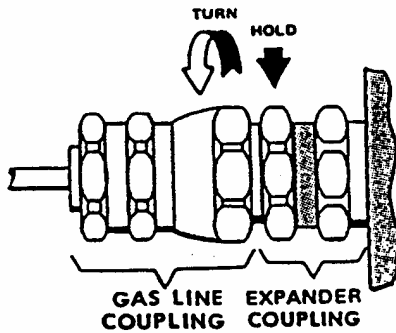

Figure 3 Break Gas Line Connection from Cold Head
1. Always use two wrenches. Use one wrench to hold the cold head coupling. Use the second wrench on the gas line coupling nut to break the connection. See Figure 3.